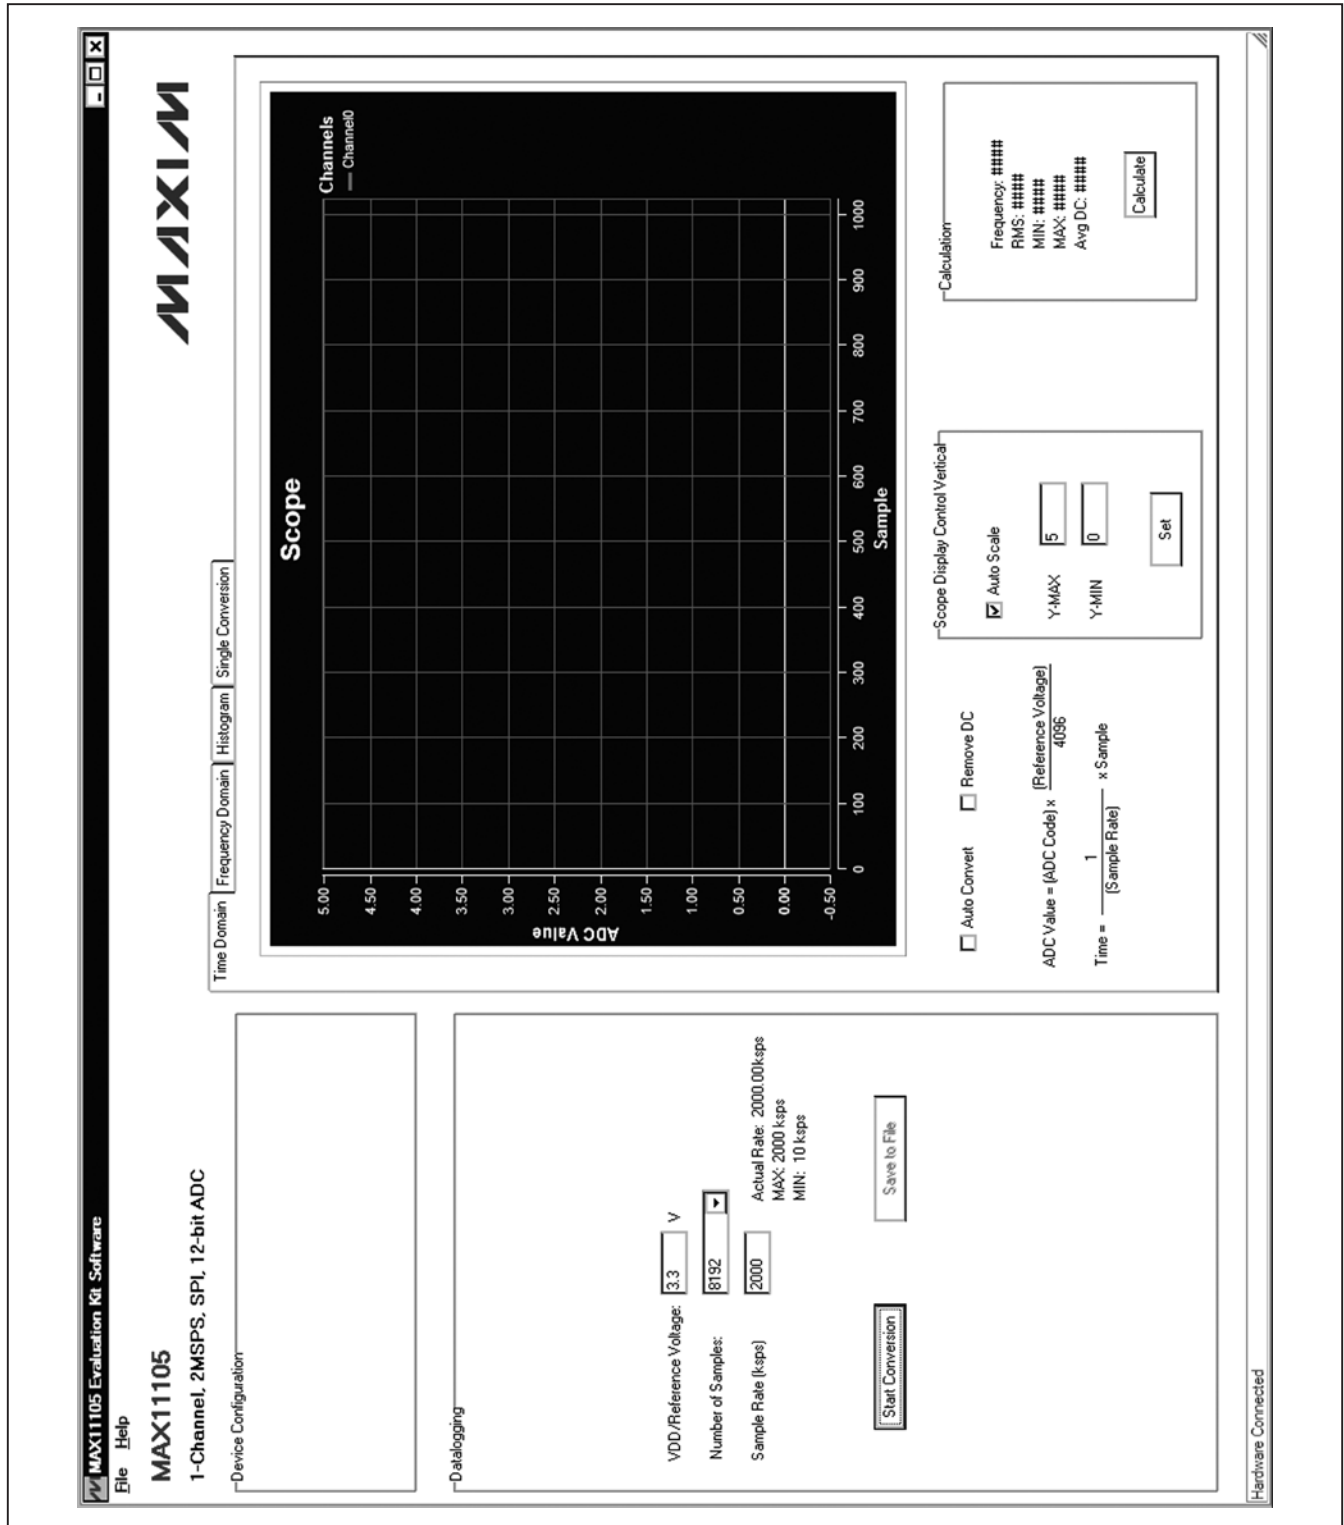

Figure 1. MAX11105 EV Kit Software Main Window
- 10) Start the EV kit software by opening its icon in the Windows **All Programs** menu. The EV kit software main window appears, as shown in Figure 1.
The main window of the evaluation software (Figure 1) contains a **Datalogging** group box and four tabs to display the sampled data.